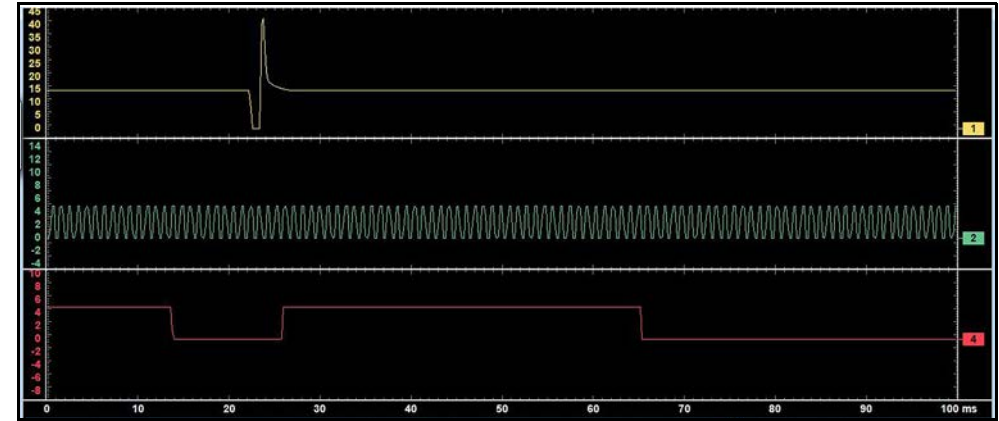

Figure 8-20 Sample 3 Windows display
- **3 windows**—shows three traces, one below another, on the same screen (Figure 8-20).